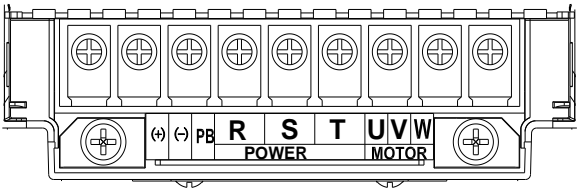

Fig.3-12 4~5.5kW Schematic of main circuit terminals
Weak analog voltage signals are easy to suffer external interference, and therefore the shielded cable must be used and the cable length must be less than 20 m, as shown in following figure. When the analog input signal to an external power supply, AI1 Terminal wiring as shown in Fig 3-12
- (a) .When the input analog voltage signal is potentiometer, AI1 Terminal wiring as shown in Fig 3-12